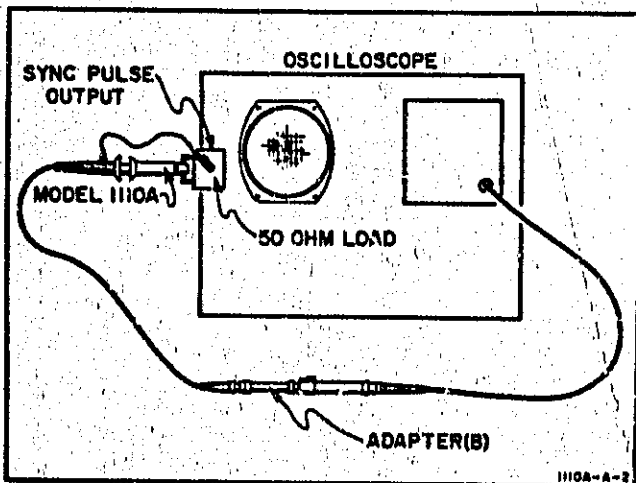

Figure 6. Rise Time Test Setup
31. Set up the test equipment as shown in Figure 6.